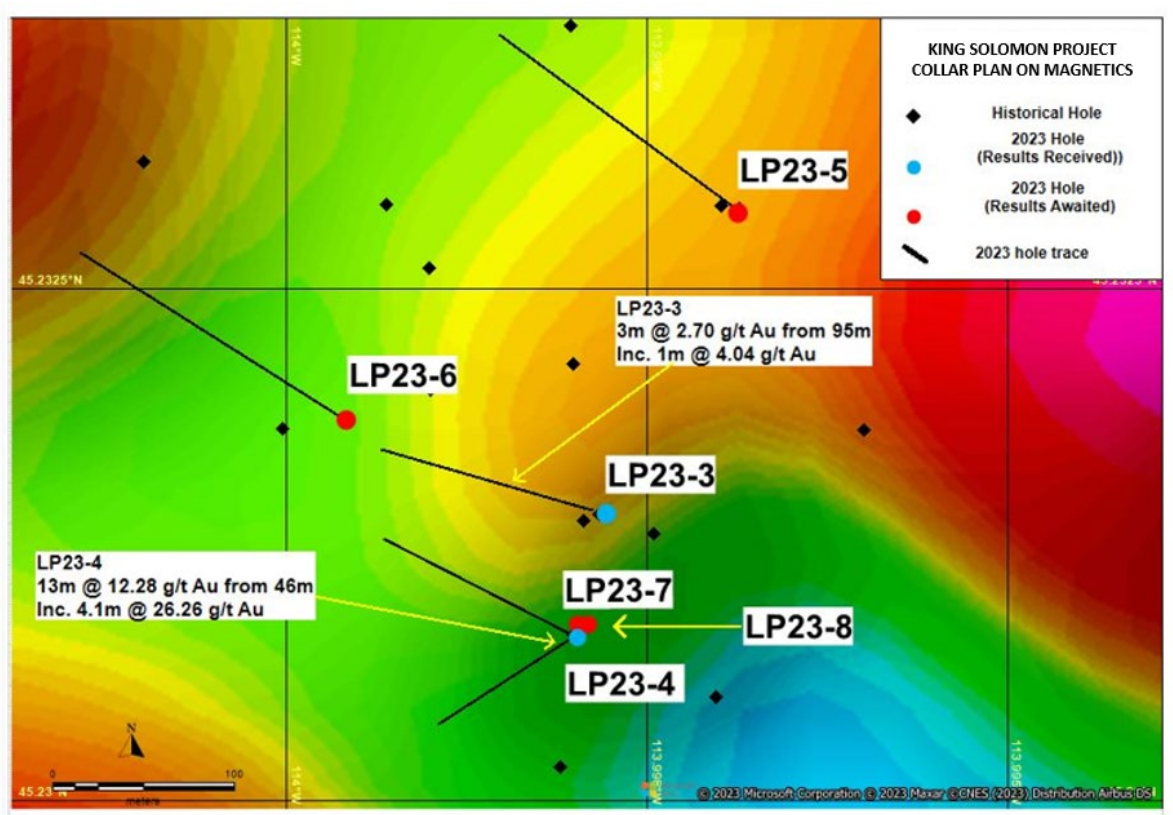

Figure 3 - King Solomon Project - Drill Location Plan overlain on magnetics.
The King Solomon Project (KS) hosts numerous shallow pits and three adits located 800m southeast of the Lone Pine Vein Zone (LPVZ). Following historical mapping and sampling in 1990, RC drilling (6 holes) was followed by a second round of RC drilling in 1992 targeting broad stockwork quartz veining in sericite-chlorite-tourmaline alteration zones in both granite and sediments (Fig. 3).
Evidence of pitting after sulphide was noted. Assay results confirmed this zone as highly significant returning **13m @ 12.28 g/t Au from 46m (Inc. 4.1m @ 26.26 g/t from 51m - Table 1 & 2)**. The true width of this zone is unknown at present and further drilling is being undertaken to determine its orientation (Figure 3). Hand held XRF readings reveal elevated W, Mn, Pb, Cr, Mo and Zn +/- As, Ag as being associated with the gold mineralisation and alteration.